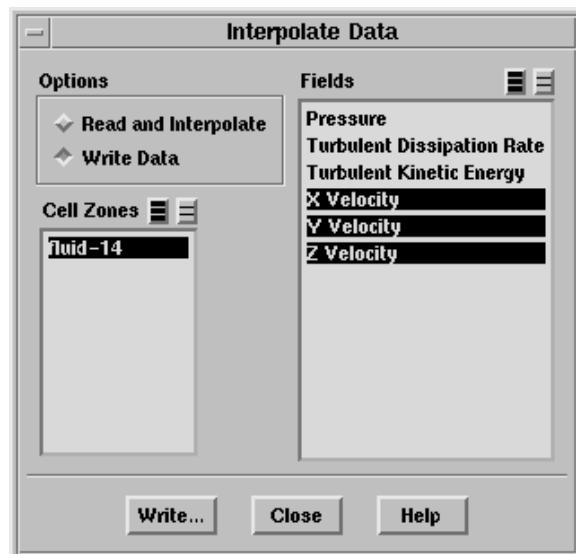

Figure 3.14.1: The Interpolate Data Panel
2. Write an interpolation file for the solution data to be interpolated onto the new grid, using the Interpolate Data panel (Figure 3.14.1).